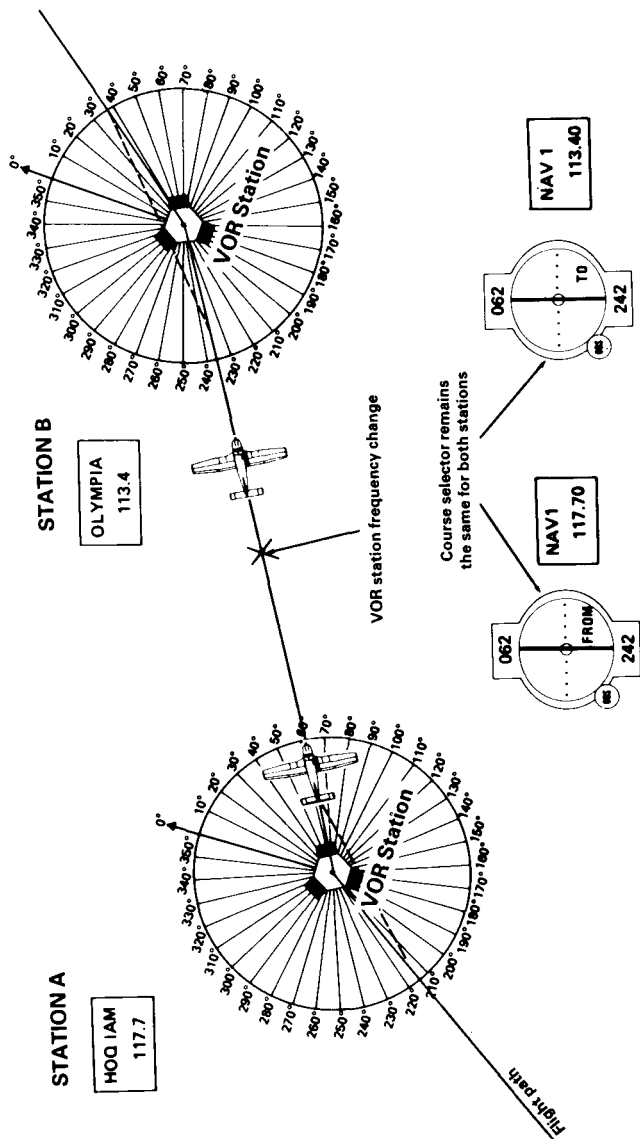

Figure 16. VOR Station-to-Station Navigation
1. Select 2 VOR stations that you want to fly between. You will be flying FROM station A TO station B. Draw a line on the map between them (see Fig. 16).